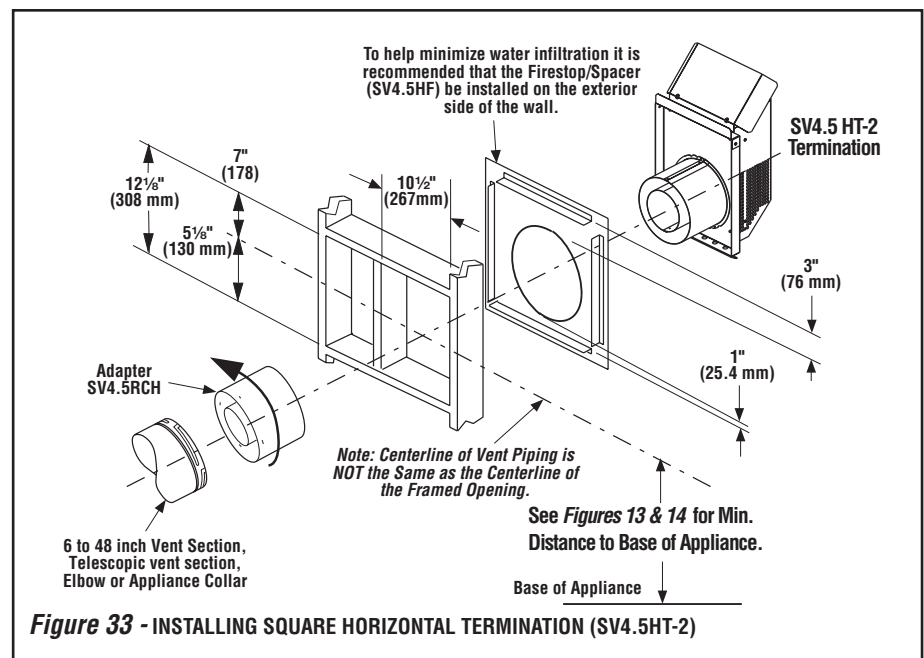

Figure 33 - INSTALLING SQUARE HORIZONTAL TERMINATION (SV4.5HT-2)
K. Attach termination adapter - Attach the adapter (SV4.5RCH - provided with the termination) to the vent section or telescoping vent section), elbow or appliance collar as shown in **Figures 33 & 34** in the same manner as any SV4.5 vent component (refer to **Step E**).
L. Install Firestop / Spacer at exterior wall - When using the **square** termination, install SV4.5HF (Secure Vent), SF4.5HF (Secure Flex) Firestop / Spacer over the opening at the exterior side of the framing, long side up, with the 3 inch spacer clearance at the top as shown in **Figure 33**, and nail into place. The Firestop / Spacer may also be installed over the opening at the interior side of the framing.